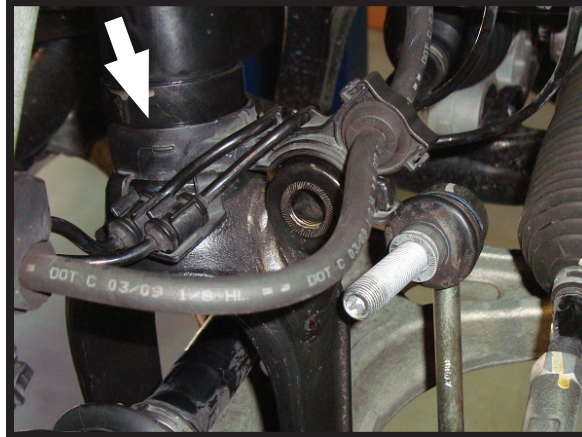

FIGURE 5
8. REMOVE THE WIRE HARNESS MOUNT FROM SHOCK. (FIGURE 5)